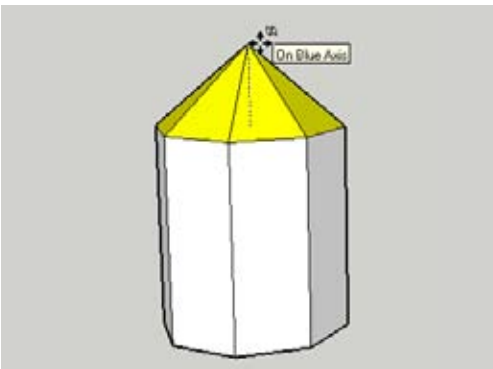

Figure 5-77
4. There are two ways to implement Autofold. Either press the Alt/Cmd key while moving or just tap the up arrow key. Now you can move the center point straight up. SketchUp breaks faces and adds edges where necessary, to accommodate the moved point (Figure 5-77).